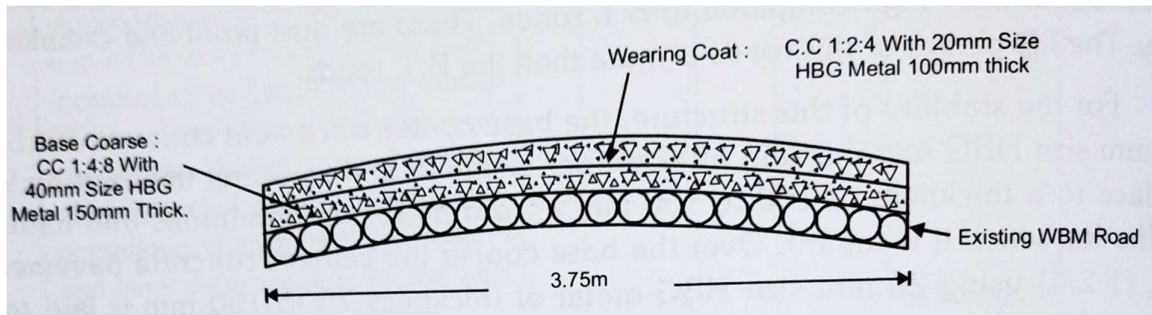

Fig.4
17. Prepare the detailed estimate for the cement concrete road of 1 km length with the following components (Fig.4)